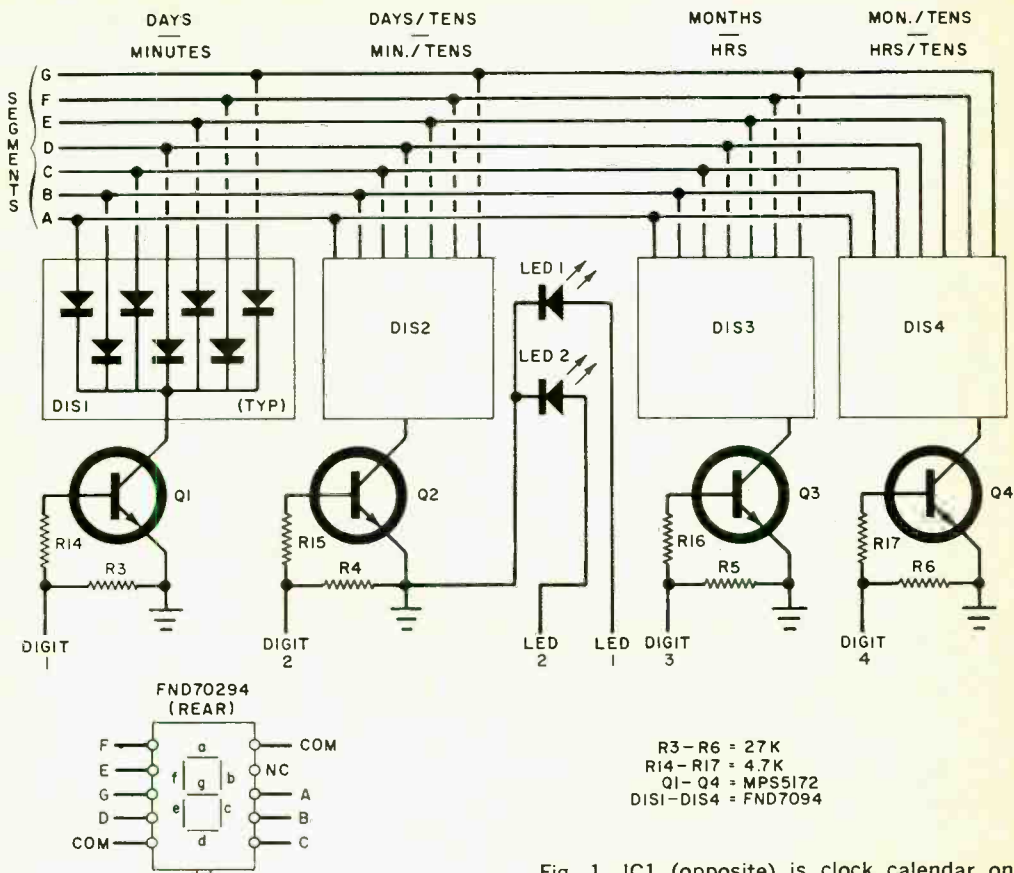

Fig. 1. IC1 (opposite) is clock calendar on a chip. The displays are seven-segment LED's with two discrete LED's to separate numbers.
**Construction.** The circuits of the clock are shown in Figs. 1 and 2. The use of a PC board is recommended. The foil patterns shown in Fig. 3 are for a four-digit clock. Etched and drilled boards for this as well as for a six-digit clock are available as noted in the Parts List.